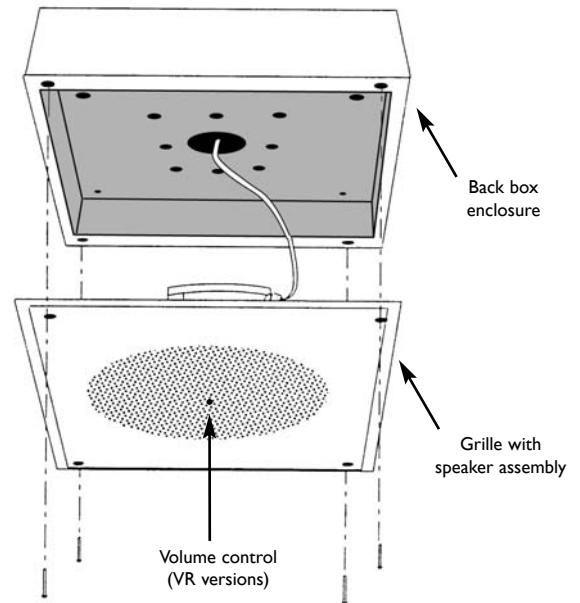

Figure 3
- Secure the speaker/faceplate assembly to the mounted enclosure. Use four 1" screws (included). See Figure 3.